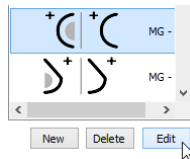

Figure 430 – Editing a selected hanging protocol
- Select the hanging protocol in the list of all protocols on the **Mammography workflow** tab of the **TomoCon options** dialog and click the **Edit** button (see Figure 430).